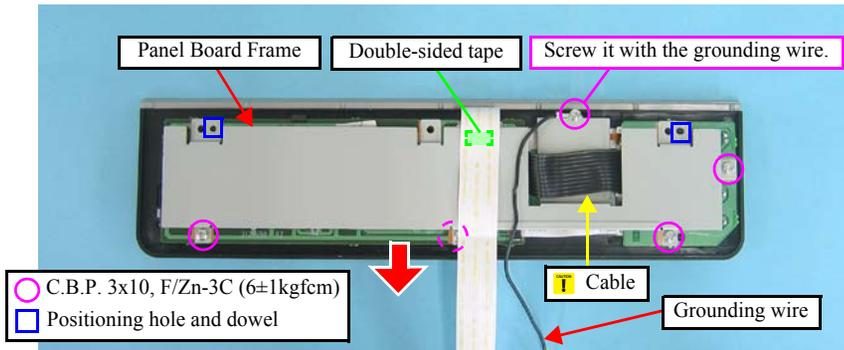

Figure 4-33. Removing the Panel Board Frame
When removing the Panel Board Frame, do not damage the cable shown in **Figure 4-33** with the Panel Board Frame.
- When installing the Panel Board Frame, align the positioning holes (x2) of the Panel Board Frame with the dowels (x2) of the Panel Cover as shown in **Figure 4-33**.